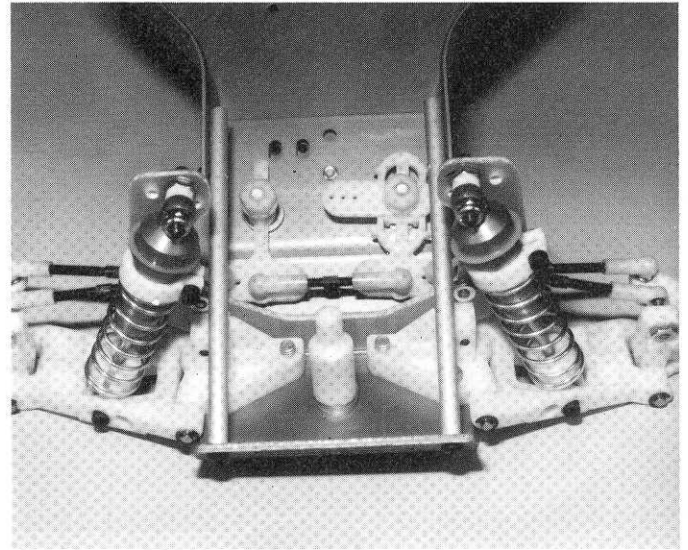

Fig. 112
□ **Fig. 112** These tubes tie in the nose piece very solidly to the chassis. Start by installing the rear screw through the side of the chassis, but do not tighten yet. Install the forward screw through the front of the nose piece into the end of the rod and tighten down. Now tighten the rear screw. Install the 2nd brace.